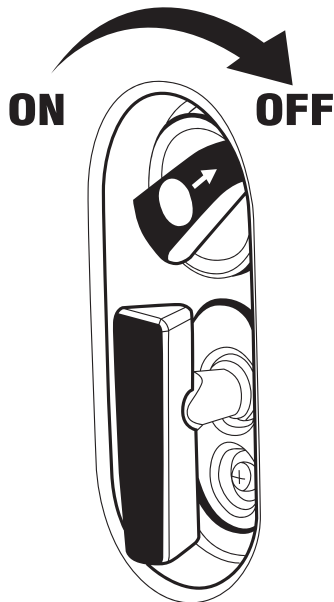

Fig. 12A
2. Turn the fuel petcock to the OFF position. (Fig. 12A)